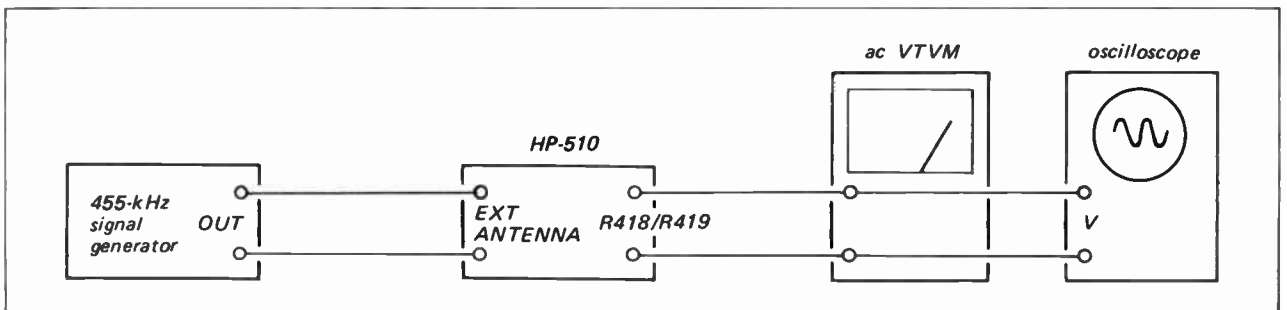

Fig. 3-15. Test setup for a-m i-f alignment by rf signal generator
3. With the equipment connected as shown in Fig. 3-15, turn the top core of IFT401 (see Fig. 3-11) to obtain the maximum output.